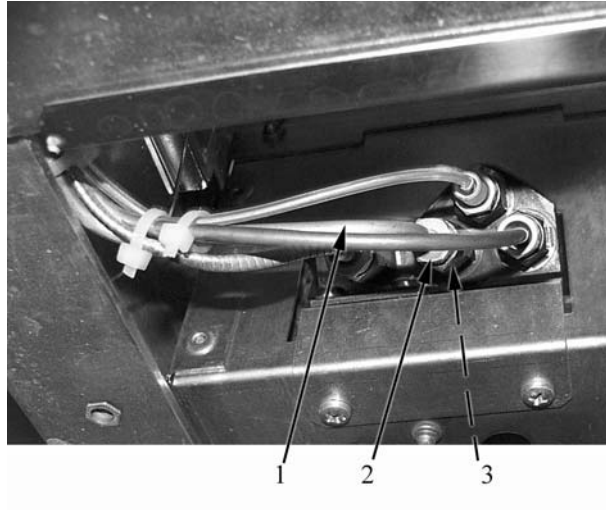

Fig. 12
The pilot flame burner has fixed nozzles and fixed air adjustment. To switch the appliance on with other type of gases, you must replace old nozzle (item 2 in Fig. 12) with the new one listed in the table 2 "*Specifications for the burners, nozzles and settings*", according to type of used gas. It is not necessary to adjust the primary air.
- unscrew the flame pilot union (item 2 in Fig. 12);
- remove the pipe (item 1 in Fig. 12) and replace the nozzle with the appropriate one.